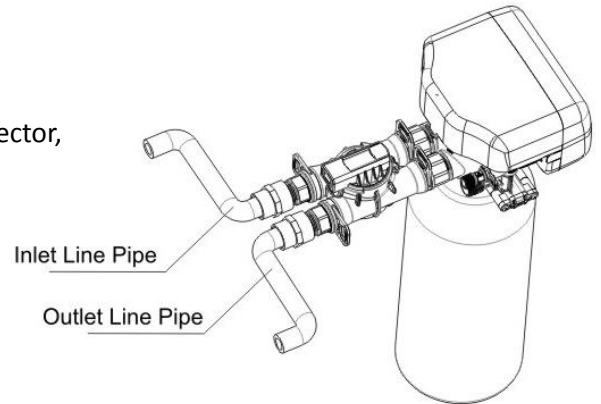

Figure 1-3
- * As Figure 1-3 shows; connect inlet pipe, via a 1" NPT female connector, to the inlet connector of bypass. Repeat steps for the outlet pipe.